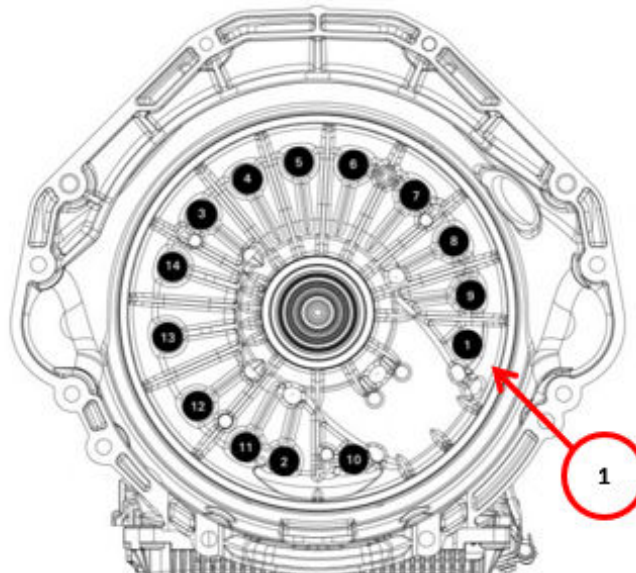

**Fig. 38**
57. Install the **NEW** input shaft O-ring Fig. 38.